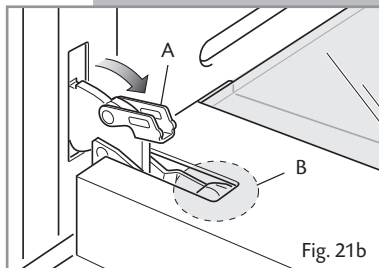
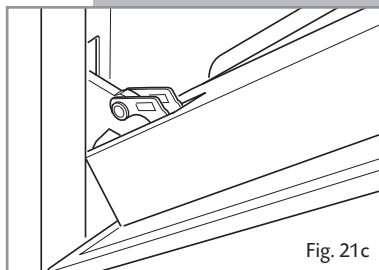

Fig. 21b
Fig. 21c
- Open the lever **A** completely on the left and right hinges (fig. 21b).
- Gently close the door (fig. 21c) until left and right hinge levers **A** are hooked to part **B** of the door (fig. 21b).